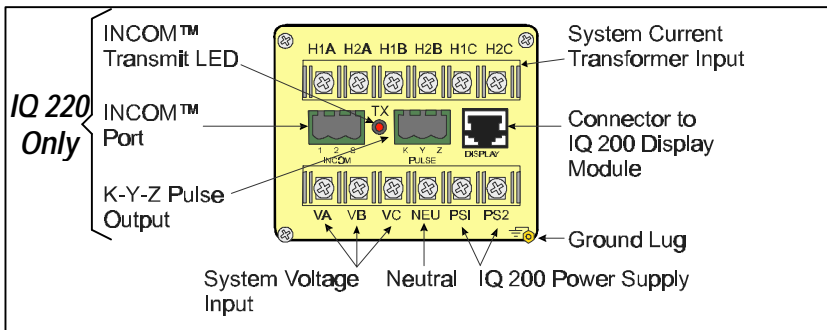

Figure 2.4 IQ 200 Base Module (Rear Face View)
All wiring connections are made from the rear face of the chassis, shown in figure 2.4 below.
**Note:** For sections 2.3.1 through 2.3.4 refer to figure 2.4.